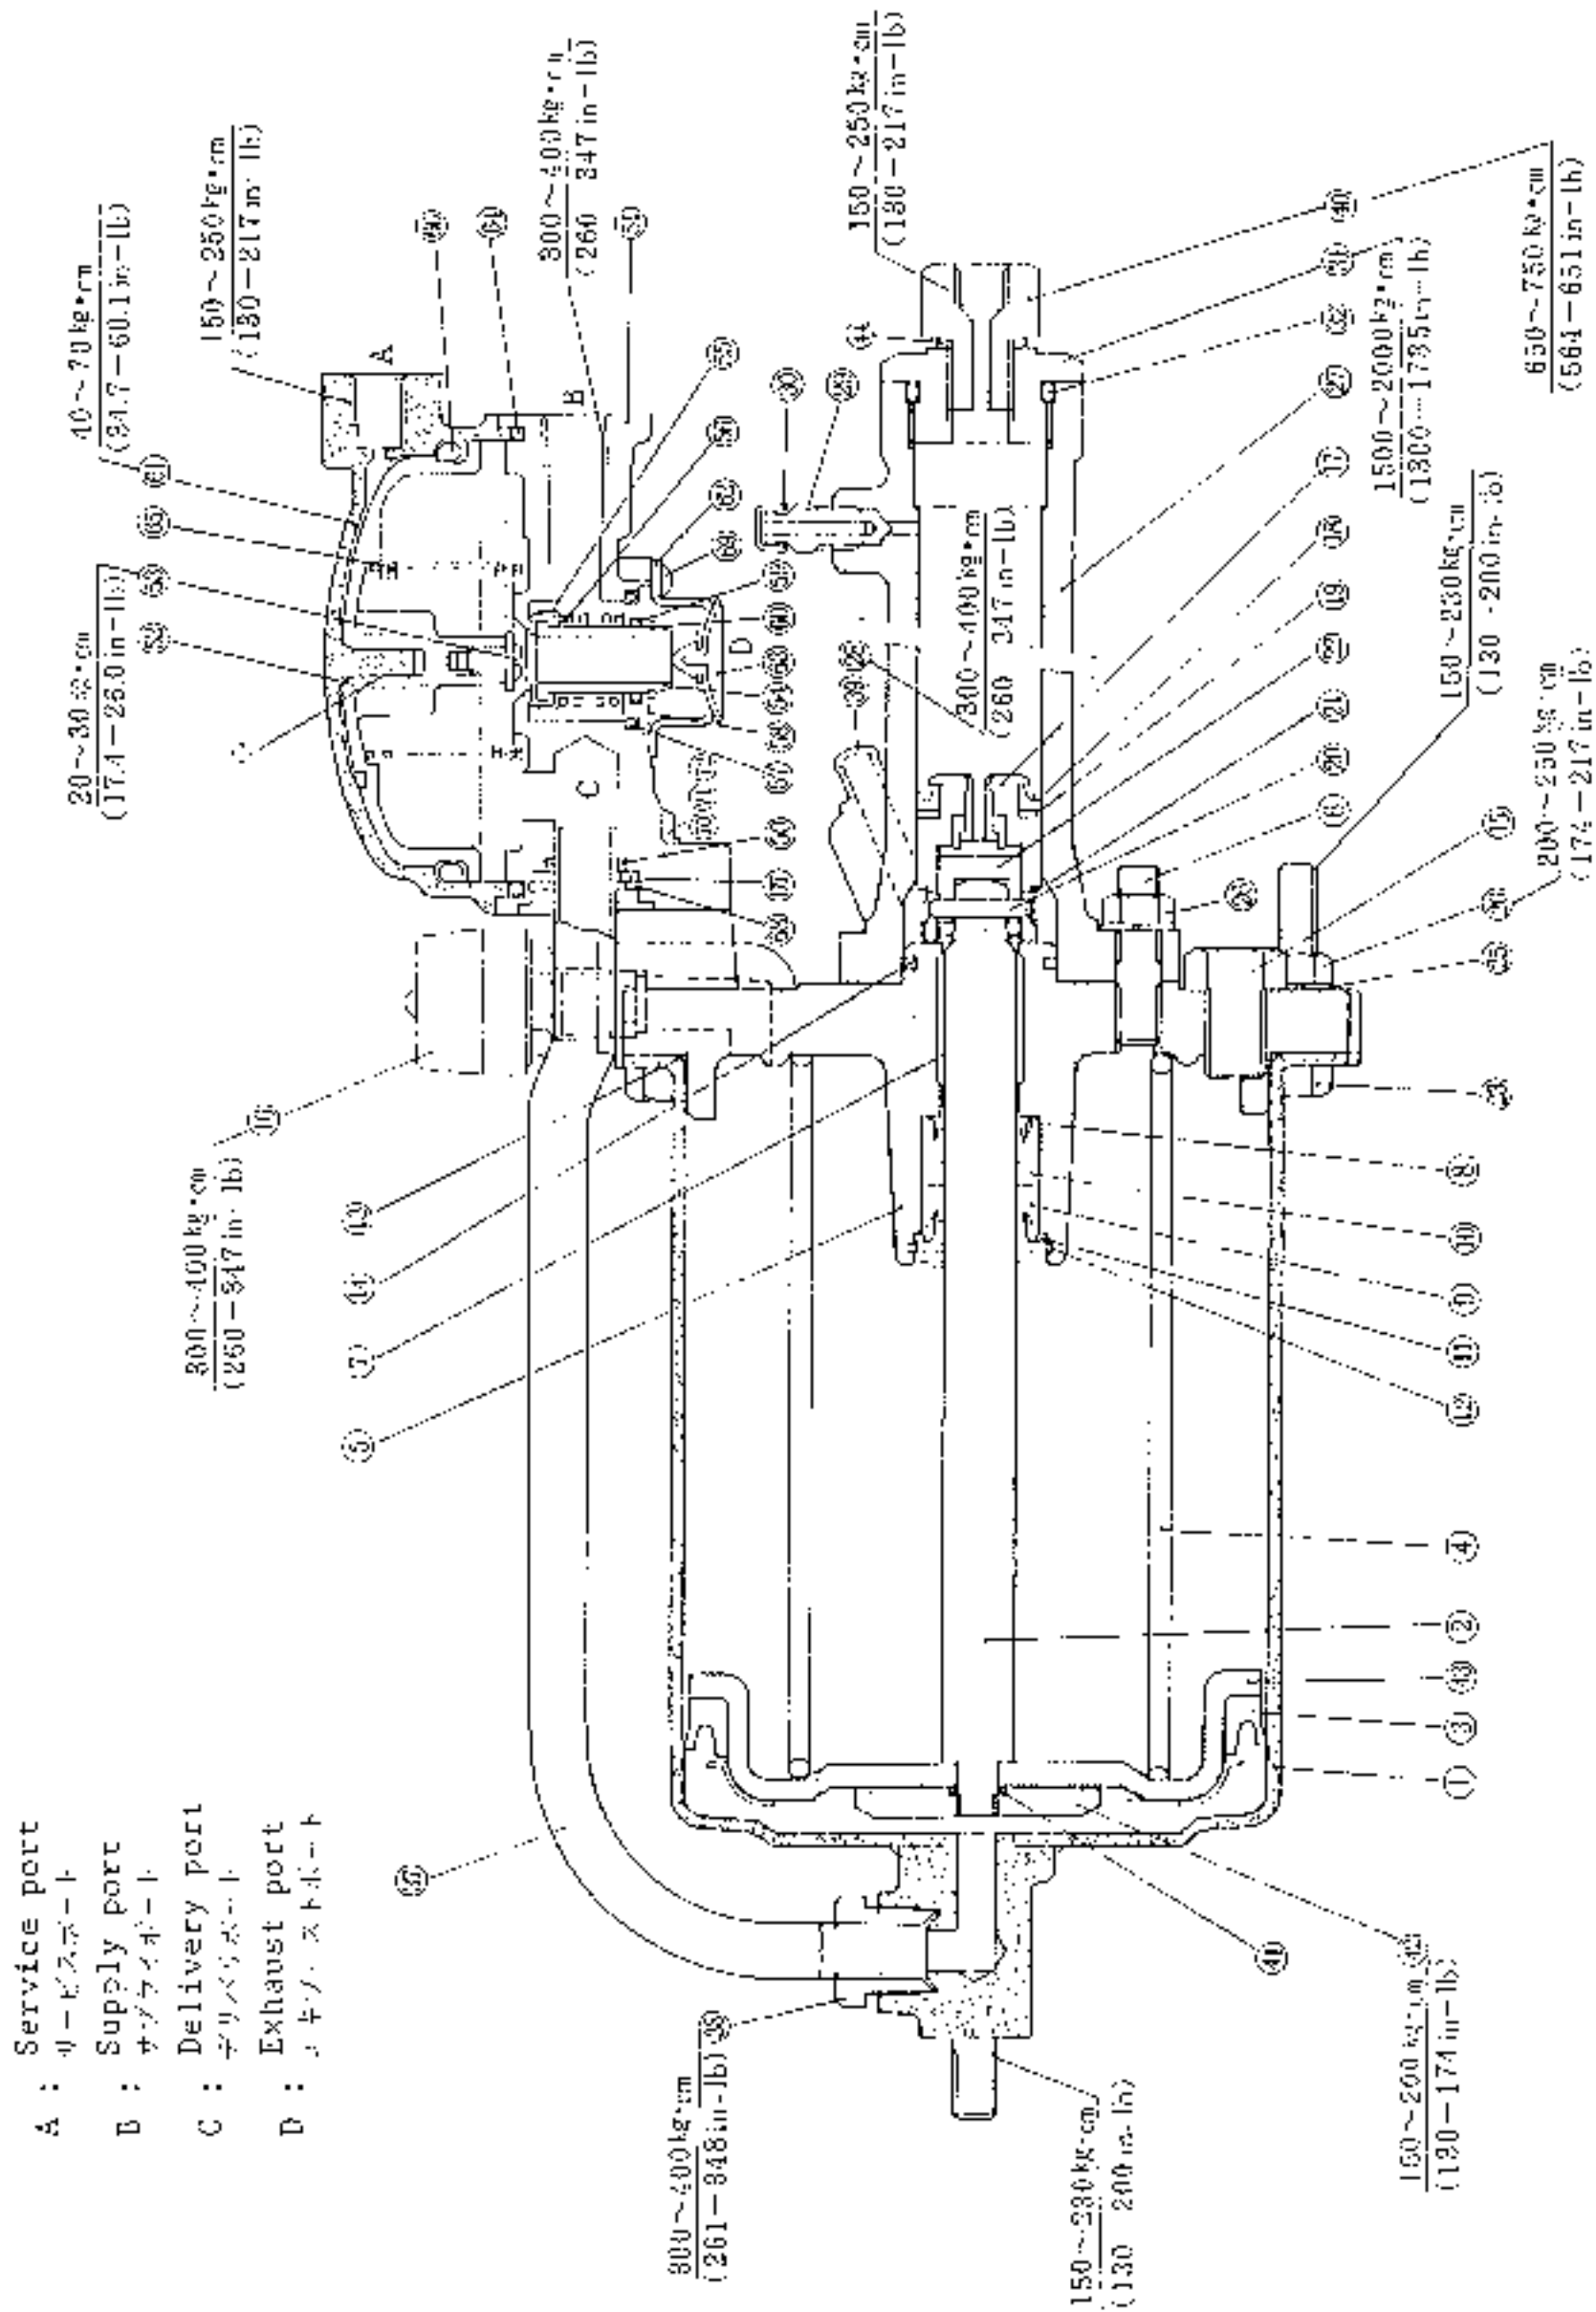

Fig. 1
1. Out of operation (Fig. 1)
1. 非作動時 (Fig. 1 状態)
In the state shown in Fig. 1, the pneumatic pressure side of the air cylinder is connected to the atmospheric air, and piston (A) is pushed to the left end by return spring (4). Since piston ass'y (B) is connected to push rod (C) by pin (D), it is also forced to the left end, and is stopped by cover (E). Piston push guide (F) is free to move, maintaining clearance in the valve of the piston ass'y so that oil can freely flow from the oil reservoir to the oil cylinder.